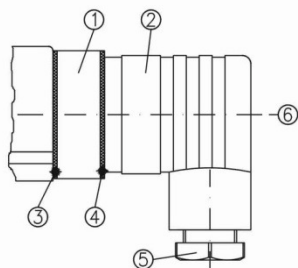

Fig. 7
- ✚ Loosen the central screw ⑥ M3x35 and disconnect the cable socket ② from the connector ① (→ Fig. 7). Pull the central screw ⑥ out of the cable socket ②.